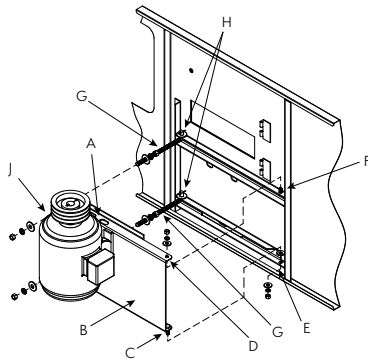

Figure 20a — External Motor Installation
All units narrower than 10' (3m) wide have their motors installed outside the unit in a shaft up configuration as shown in **Figures 20a and 20b** below. Due to shipping width restrictions, these motors cannot ship mounted on the units since they would extend past the width of the truck. For this reason, the motor(s), motor base(s), motor guard(s), "J" bolts, pivot pins and belt(s) are shipped in the cold-water basin of the cooling tower. Please follow the step-by-step instructions below to properly install these components.
1. Study **Figure 20a** above before installing the motor base on the unit.